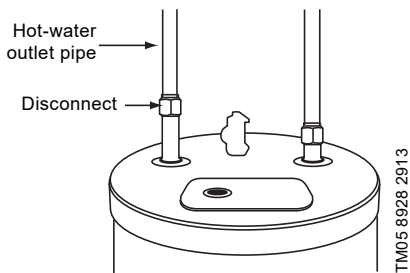

Fig. 1 Hot-water pipe disconnect of the water heater
3. Disconnect the hot-water pipe from the hot-water outlet of the water heater. See fig. 1.